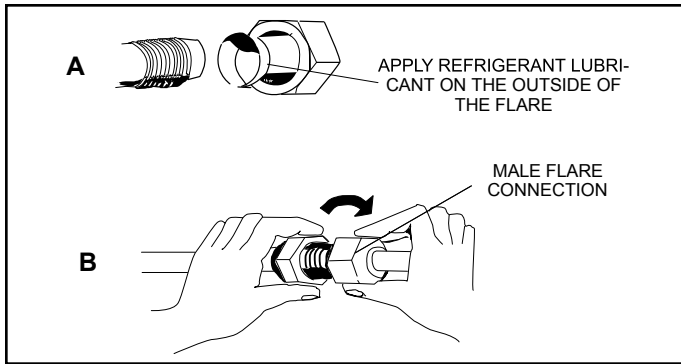

Figure 32. Making Connections
15. Align the threaded connections with the flared refrigerant lines. Tighten the flare nuts lightly at first to obtain a smooth match as illustrated in Figure 32.